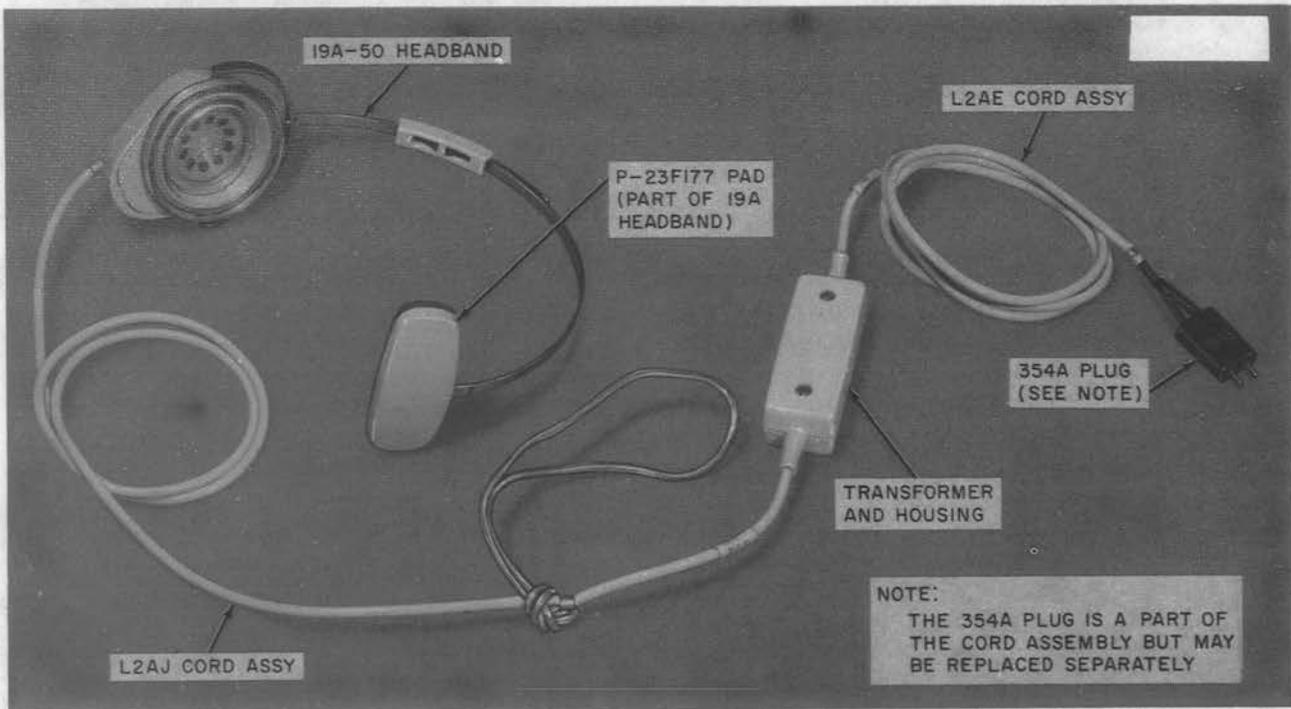

Fig. 1—1023A-Type Headset
2.01 Figures 1 through 7 show the relationship of the various parts of the head telephone sets. The piece-part numbers of these parts are given together with the names as listed by the Western Electric Company Merchandise Department.
3.06 L2AJ Cord Assembly: Fig. 1 and 2—Disconnect the cord at the receiver unit end as covered in 3.03. Disconnect the cord at the transformer or capacitor end as covered in 3.04 or 3.05.
3.07 L2AE Cord Assembly: Fig. 1—Disconnect the cord at the transformer end as covered in 3.04. Substitute the new cord, and connect it as shown in Fig. 7. Reassemble the parts in the reverse order of removal. Dress the leads as originally positioned.
3.11 Headband Pad: Fig. 1 and 2—To replace the headband pad, remove the old pad from the headband. Remove the paper from the sensitive backing of the new pad, and substitute for the old pad.